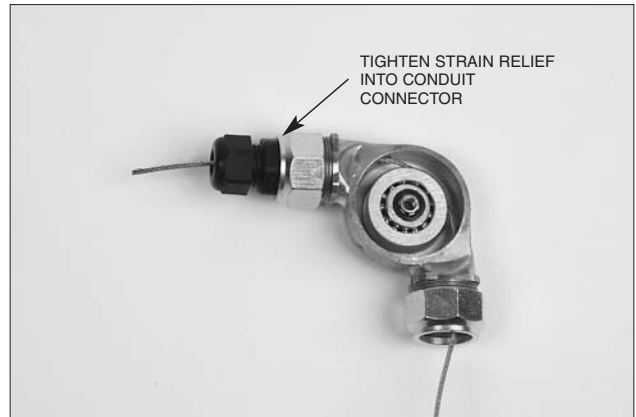

Figure 4-52.
5. Tighten the body of the strain relief to the conduit connector. See **Figure 4-52**.